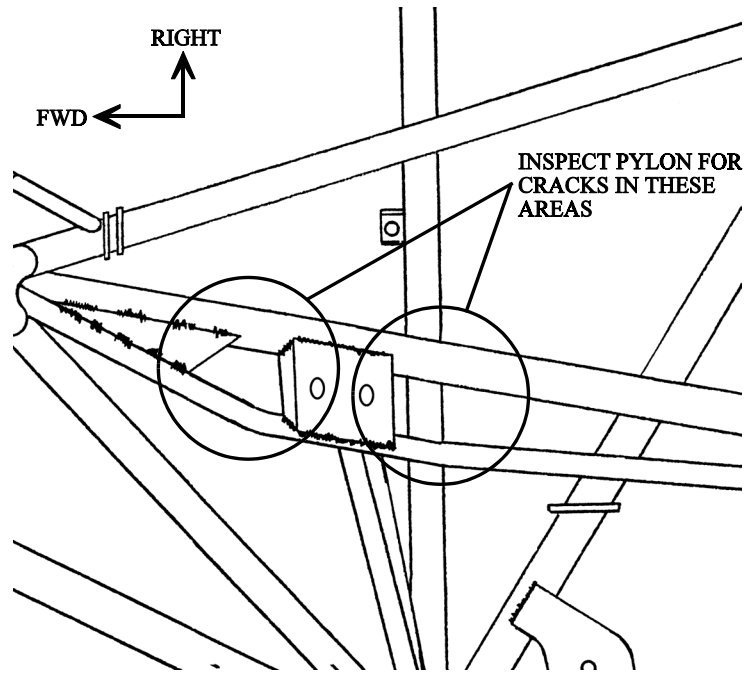

Figure 1. Pylon (Viewed from Top)
Enstrom recently received a report from an operator of a broken pylon. The failure occurred in the area adjacent to mounting bracket for the belt tension assembly bracket (Refer to Figures 1 and 2). A review of Enstrom's records indicates that other than this recent failure there have been three failures in this area in the last ten years. Enstrom believes the failures are not a chronic problem and were probably a result of either a rough belt or improperly adjusted belt tension and idler pulley adjustment.
- A. Enstrom recommends visually inspecting the pylon area adjacent to the belt tensioning assembly mounting bracket for cracks and other damage within the next 10 flight hours (Refer to Figures 1 and 2). If no damage is found, return the aircraft to service. If damage is found, repair in accordance with AC 43.13-1B or contact Enstrom Customer Service for specific repair instructions.